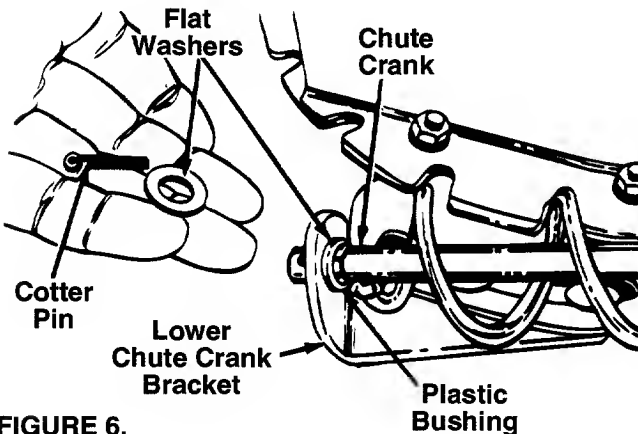

FIGURE 6.
- Place one flat washer on the end of the chute crank, then insert the end of the crank into the hole in the plastic bushing in the chute crank bracket. See figure 6. Place the other flat washer on the end of the chute crank, and insert cotter pin into hole in the end of crank. Secure by bending the ends of cotter pin in opposite directions.